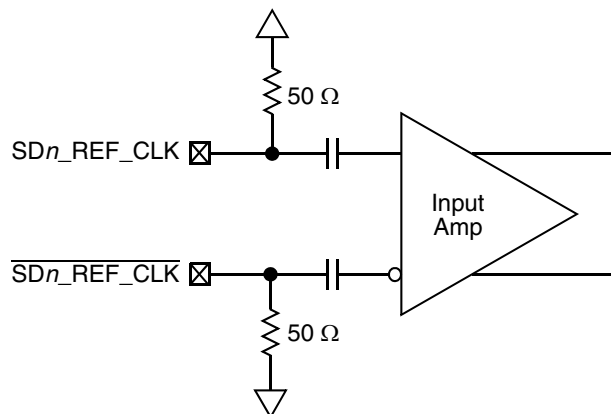

Figure 45. Receiver of SerDes Reference Clocks
Figure 45 shows a receiver reference diagram of the SerDes reference clocks.
- The $\overline{SDn_REF_CLK}$ and $\overline{SDn_REF_CLK}$ are internally AC-coupled differential inputs as shown in Figure 45. Each differential clock input ($\overline{SDn_REF_CLK}$ or $\overline{SDn_REF_CLK}$) has a 50- Ω termination to $\overline{SGND_SRDSn}$ (xcorevss) followed by on-chip AC-coupling.